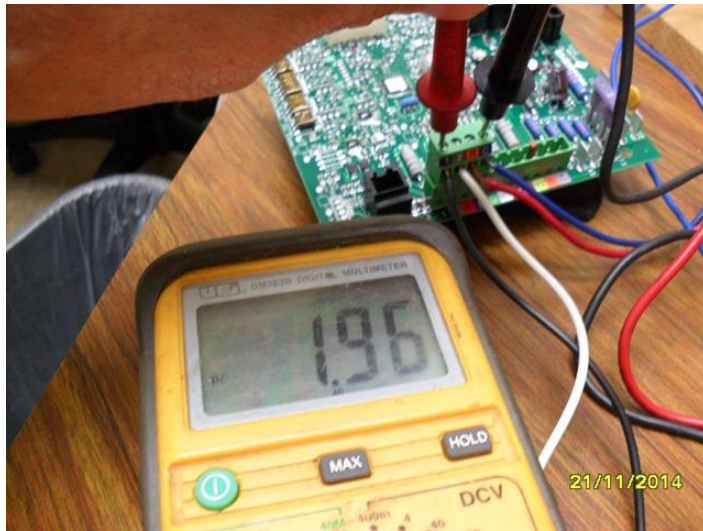

Figure 1
- DC voltage from C to data 1 should read approximately 1.9vdc or 2.8vdc for some furnaces. (Figure 1)